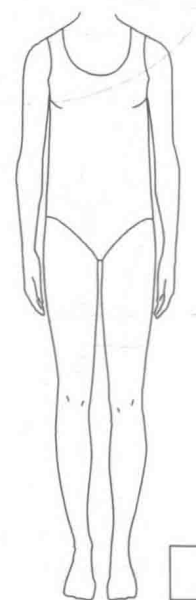

FIGURE 4.34
- The rectangular figure type is balanced, but without much indentation at the wider waist (see Figure 4.34).